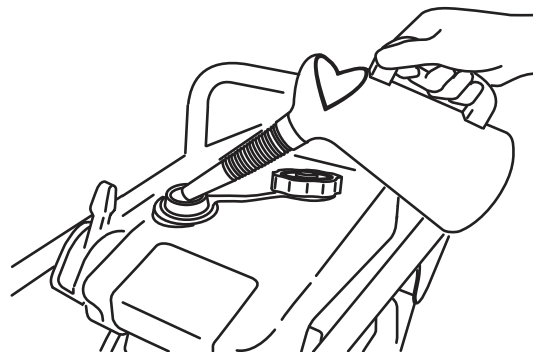
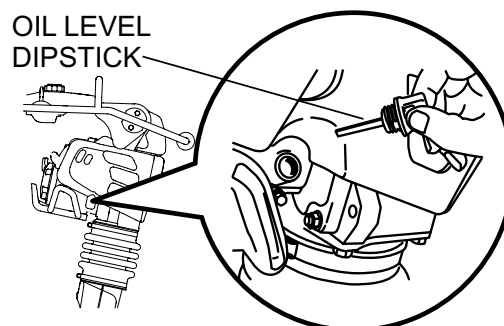

Figure 7. Fuel Tank
Figure 8. Engine Oil Dipstick
1. Fill the fuel tank (Figure 7) with unleaded gasoline. After refueling, make sure cap is tightened securely. **DO NOT** over fill. At the same time, check the engine oil and make it a habit to replenish it often (Figure 8).